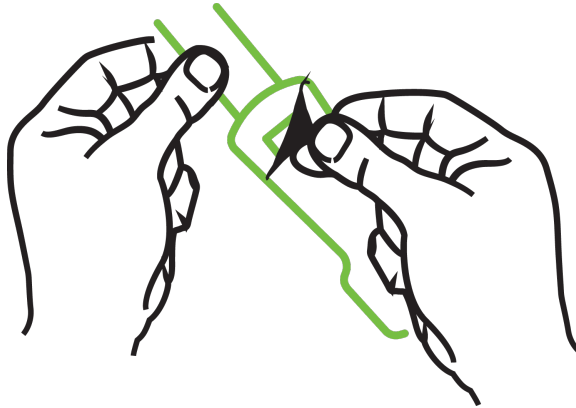

Figure 13-10: Removing protective liner from sensor
2. Remove and discard the protective liner from the sensor (Figure 13-10 on page 226).